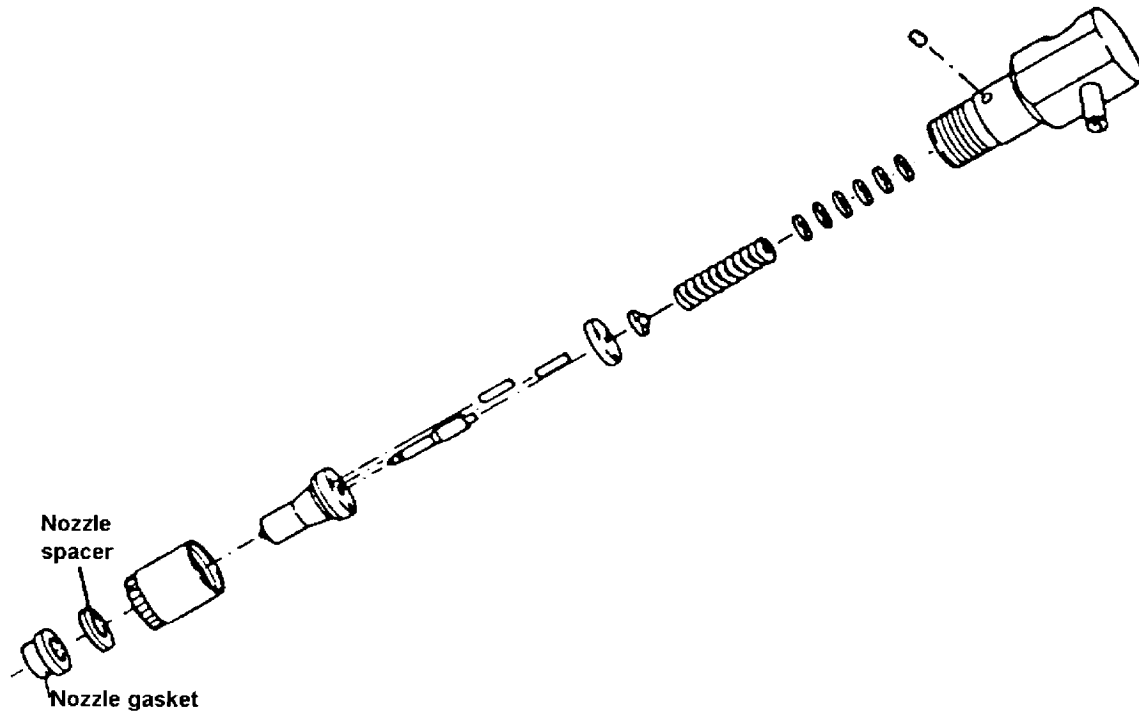

Figure 6-7 Fuel injection valve disassembled
- 6) Air hose 30-50 lbs. through injector adaptor to check valve leaks (see Figure 6-7).